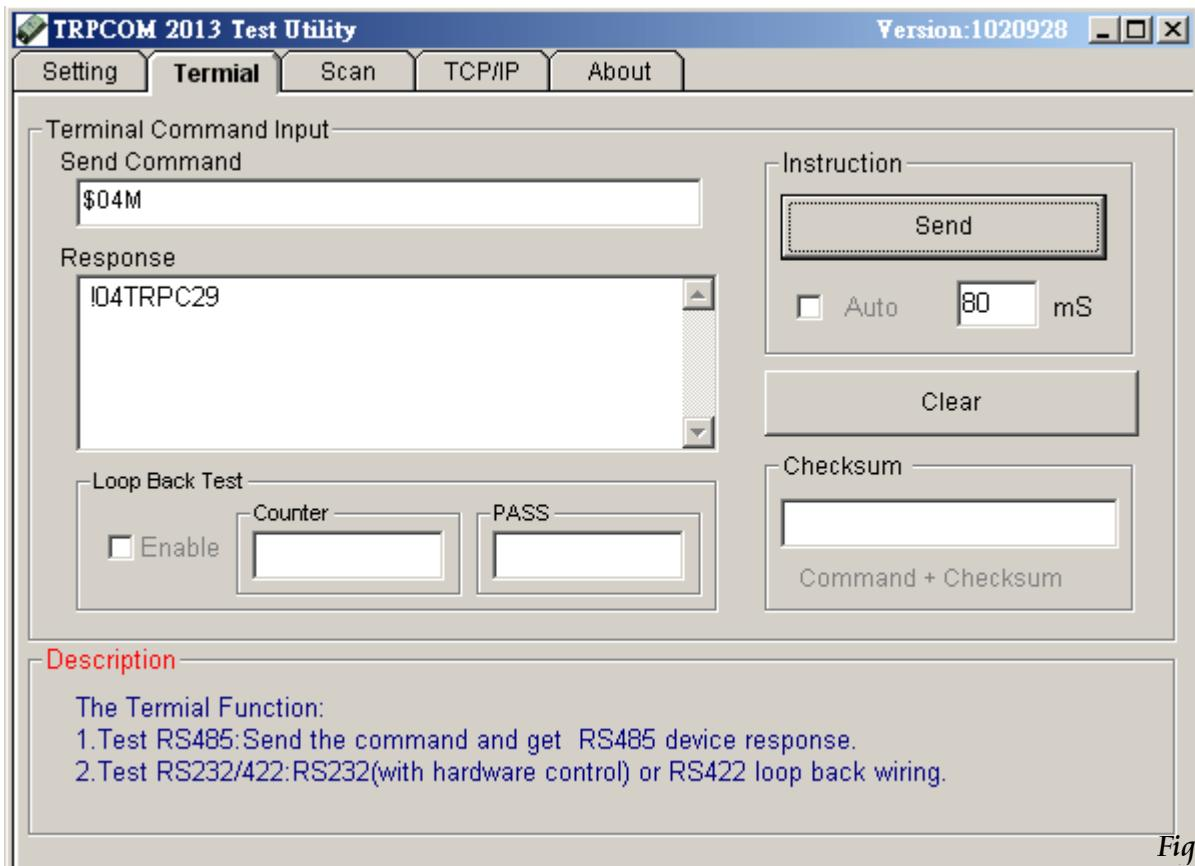

Figure 2
- 2.The “Terminal” function is for user to input command, user can control all of module’s digital input/output status or wait to get module response status ...See Figure 2.